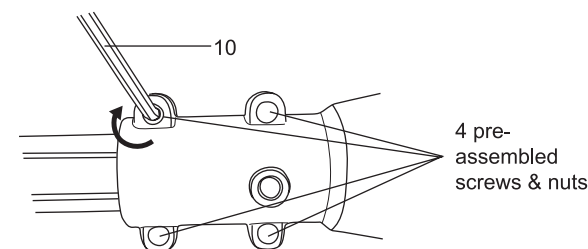

Fig. 4
5. Tighten 4 pre-assembled screws on the motor unit by using the provided hex key (10). (Fig. 4)